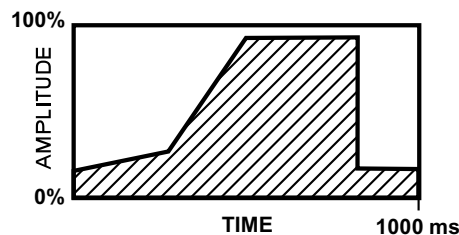

Figure 1. Sample Amplitude Profile
- **Amplitude Change** - Amplitude can be *increased or decreased* instantaneously *during* the weld, making possible a level of control of the process not previously feasible. (See Figure 1.) The control signal can come from a user-provided external source. The working amplitude range is from 10 to 100%.